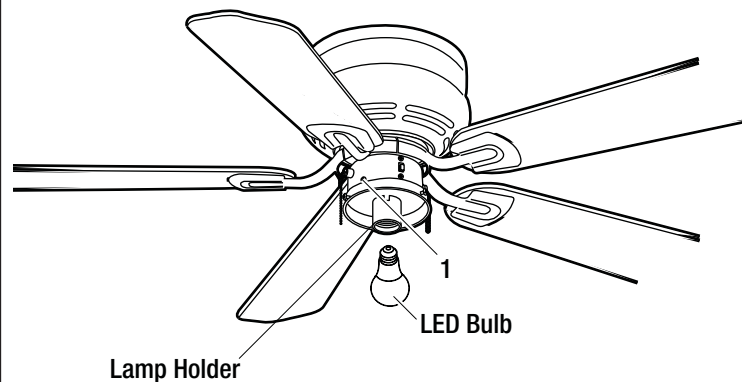

Figure 15
- Install a LED bulb (max. 9.5W, medium screw base) to the lampholder (Figure 15).